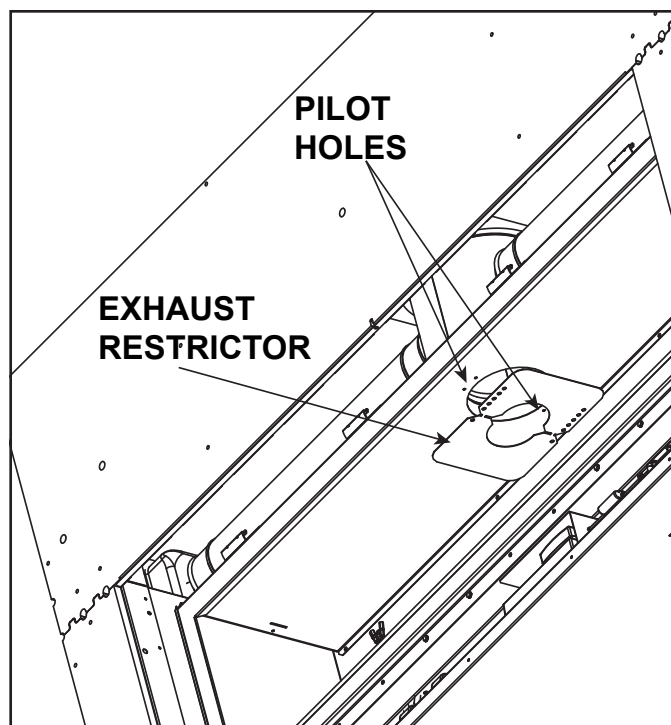

Figure 4.15 Exhaust Restrictor
1. Locate the two pilot holes in the inside firebox chamber as shown in Figure 4.15.